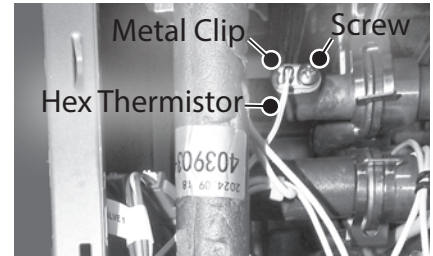

Figure 75 - Outlet thermistor location
- 21** Locate the heat exchanger outlet thermistor as shown in Figure 75.
- 22** Locate the screw securing the heat exchanger outlet thermistor. See Figure 75. Use a Phillips screwdriver to remove the screw and the metal clip. Remove screw and place aside in a safe place for reinstallation. Discard metal clip.
- 26** Install the new heat exchanger outlet thermistor in the water heater. See Figure 75. Secure with the new metal clip and the screw removed in **Step 22**.